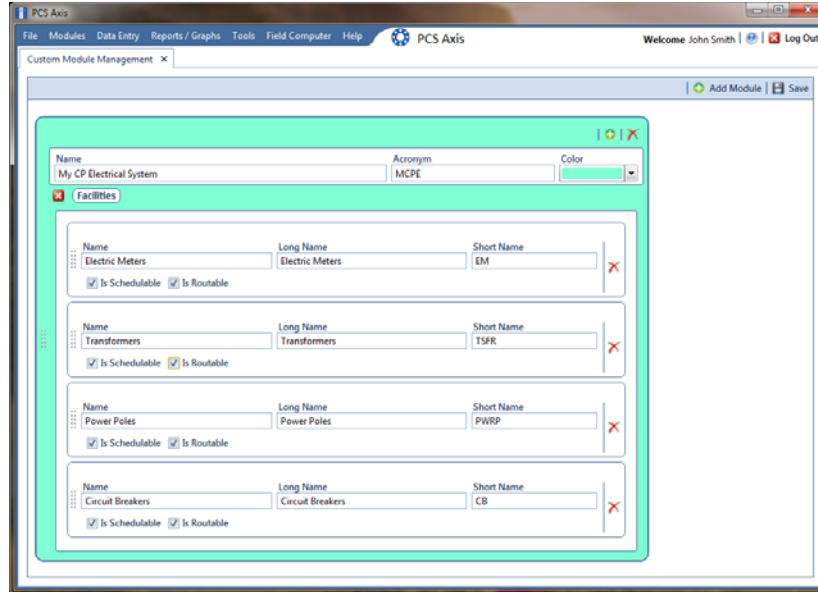

Figure 3-81. Custom Module Management
- 4 To set properties for one or more user defined facility types, complete the following steps (Figure 3-81):
- c Type an acronym for the user defined field in the **Short Name** field. The field accepts up to four (4) alpha characters. It does not support numeric or special characters.
The following example shows a user defined module with user defined facility types labeled *Electric Meters*, *Transformers*, *Power Poles*, and *Circuit Breakers* (Figure 3-81).